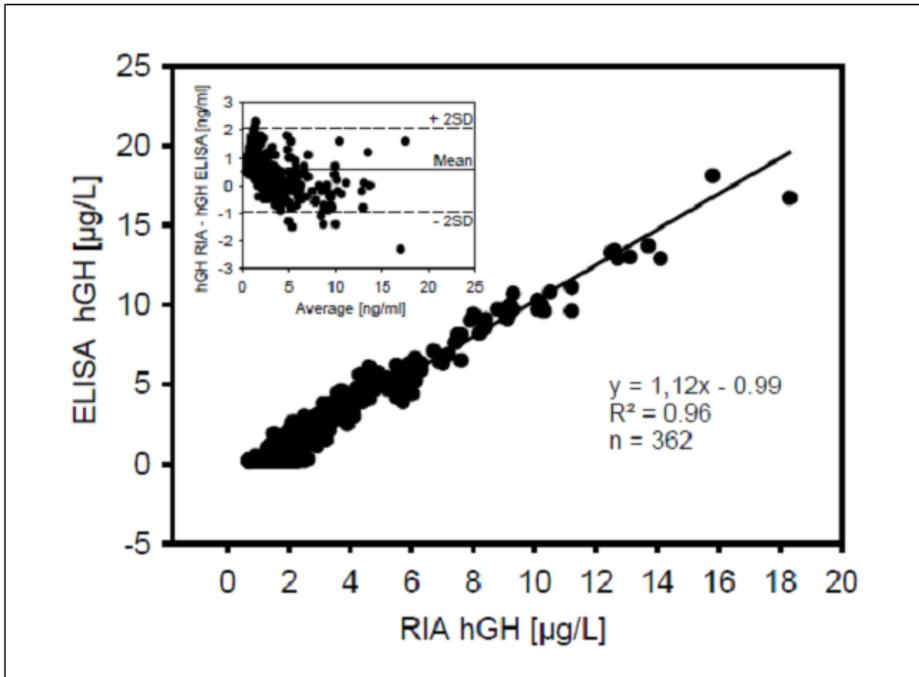

Figure 3: Assay Comparison.
Langkamp et al Growth Horm IGF Res 18 (2008) 526-532 compared an in-house assay used for hGH measurements for years with the Mediagnost E022 (9). Results show a very good comparability and thus cut-off values established by the in house-assay can also be used with the Mediagnost E022 (see Figure 3).